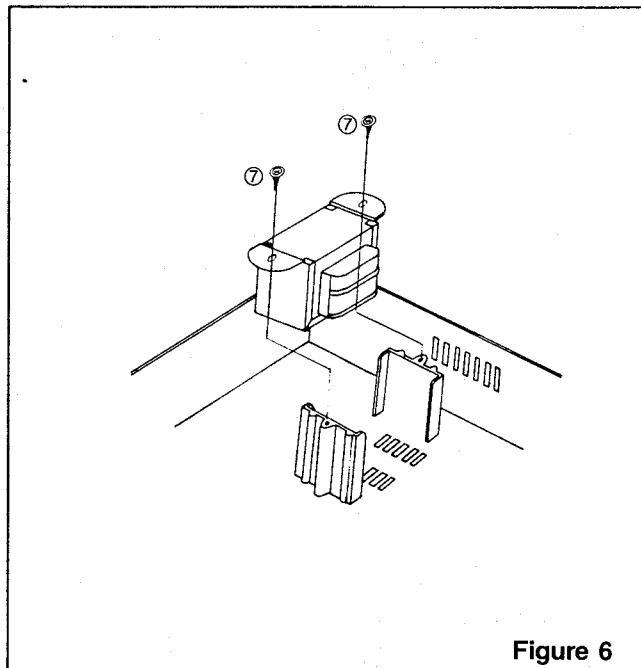

Figure 6
6. To Remove the Power Transformer (Figure 6)